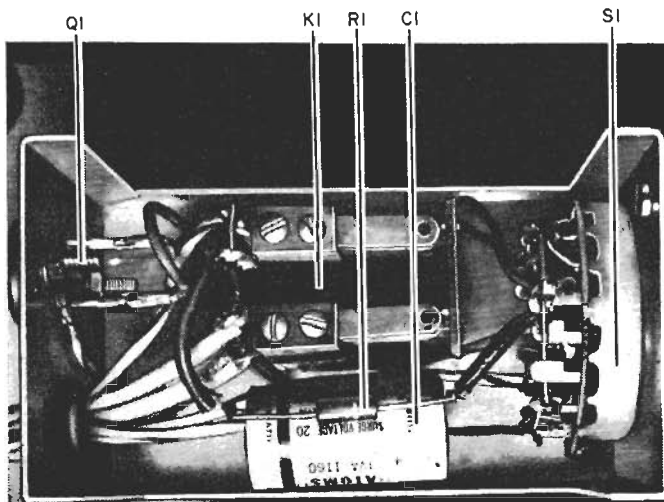

Fig. 2. After mounting components in small utility box or under dashboard, try to waterproof circuit to prevent relay and switch contact corrosion.
**How To Install.** Since the project is so simple, the only construction information necessary is shown in Fig. 2. This is only a suggested layout; if you wish, you can use your own ingenuity to house and mount the circuit. One thing, however, is worth pointing out: Do not put numerals at the knob pointer locations for *S1*'s positions. Plan to count the clicks instead. This will preserve the security of your lock combination if someone is watching you open it.